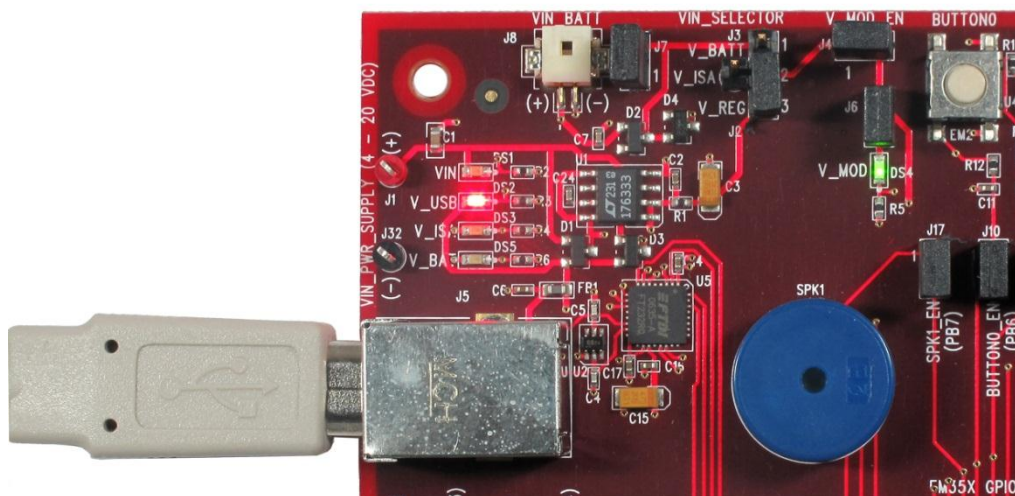

Figure 9. Breakout Board Power Supplied by USB
- **Breakout Board Power Supplied by USB (Figure 9):** The Breakout Board may also be powered through the USB connector, either using a USB cable plugged in to the USB power adapter included in the development kit, or by connecting it to your PC. The power supply jumper on the Breakout Board should be in the lower vertical position, connecting V_REG to the center pin. The V_USB LED will illuminate when power is applied. When powering the Breakout Board in this way, ensure the power switch on the Debug Adapter (ISA3) is in the EXT (External) position.